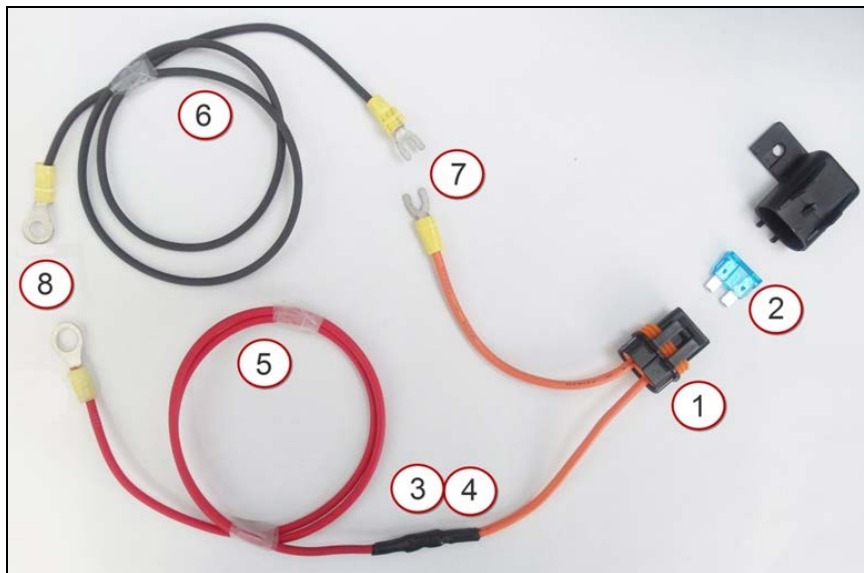

FIGURE 2
4. Complete the wiring as shown on Figure 2.